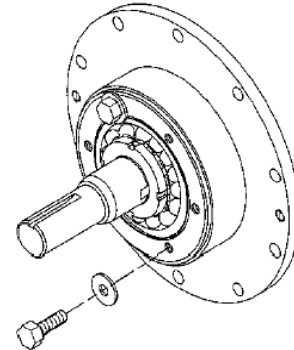

Figure 7 Clamping the Bearing
5. Hand pack the ball bearing (24) with grease. Refer to the "Lubrication" section for the recommended grease.
6. Install the bearing into the head recess. The bearing balls should face outward, with the grease shield inward. Ensure the bearing is fully and squarely seated against the mechanical seal. Install two 3/8" (10 mm) washers and two bearing cover capscrews (28) to clamp the bearing for proper bearing locknut adjustment (see Figure 7). The washers and capscrews will be removed after the locknuts are adjusted. Leave the two capscrews and washer in place to retain the bearing during assembly.